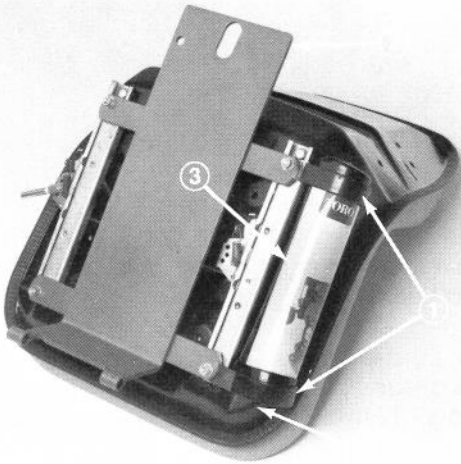

Figure 7
5. Loosely secure (2) R-clamps to right side of seat bottom with (2) capscrews supplied in kit (Fig. 7). Install manual tube into R-clamps and tighten capscrews (Fig. 7).
8. Mount seat pivot bracket to frame with (2) flange screws supplied in kit (Fig. 7).